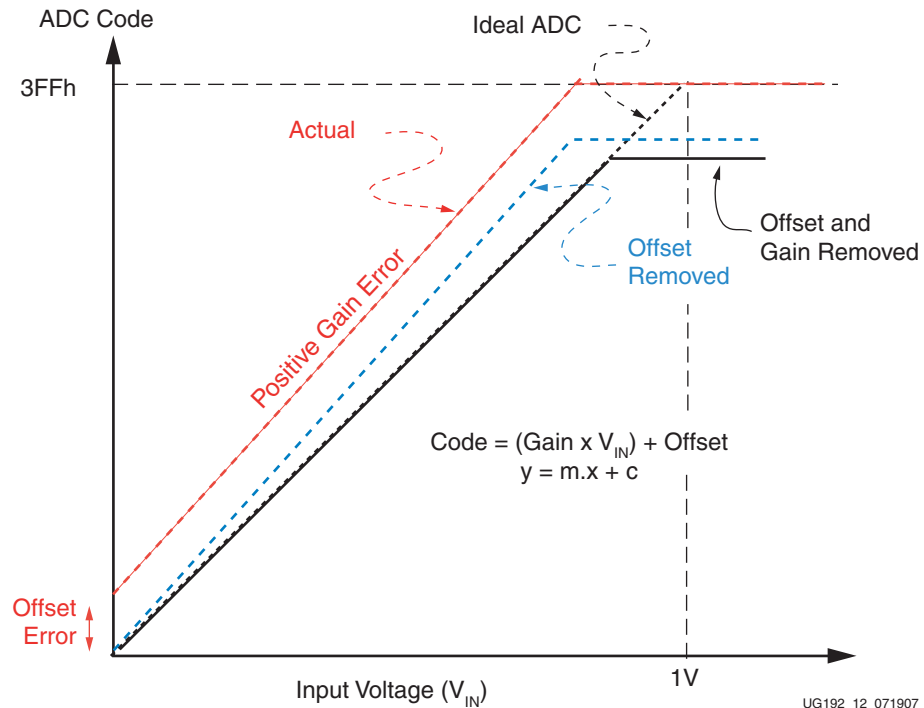

Figure 12: Offset and Gain Correction
Figure 12 shows an example of an ADC transfer function containing offset-and-gain errors (red dashed line). The ideal transfer function is shown as a dashed black line. The ADC transfer function has the form of  $y = m.x + c$  (linear). Offset is defined as the ADC output code when the input is 0V (where the transfer function crosses the y axis). This offset is removed by digitally subtracting this offset. The result of this offset calibration is shown in Figure 12 by the blue dashed line.
**Note:** Digital calibration can result in some loss of the analog input range at the start and end of the ADC input range. This is illustrated in Figure 12 where the ADC output never reaches 3FFh. Typically, the loss of input range is no more than 20 mV at either end of the transfer function. For most monitoring applications, the loss is insignificant.